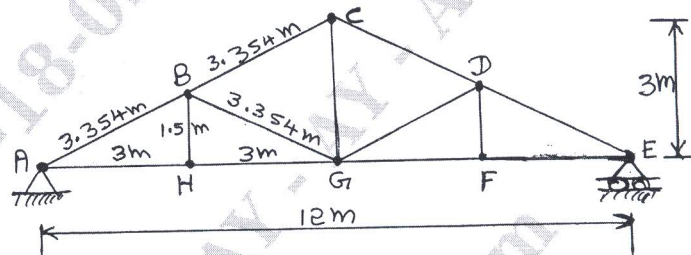

Fig.Q4
4. Design a bolted steel Howe truss having an effective span of 12.00m. The geometry of the truss is as shown in Fig.Q4. The forces induced in the members due to dead load, live load and wind load is tabulated in Table.Q4. Determine the design forces in the members due to various combination of loads as per IS – 800 provisions and hence design principal rafter, principal tie and main sling member with all the necessary safety checks including the reversal of stresses. Also design support joint 'A' by considering the size of supporting reinforced cement concrete column as  $300 \times 300$ mm, the design bearing pressure on the concrete is limited to  $2\text{N/mm}^2$  and the design bond stress between anchor bolt and concrete is limited to  $1.2\text{N/mm}^2$ . Use M16 ordinary black bolts of grade 4.6 for designing member and connection with gusset plate and M25 bolt as anchor bolt at supports. List the design details.